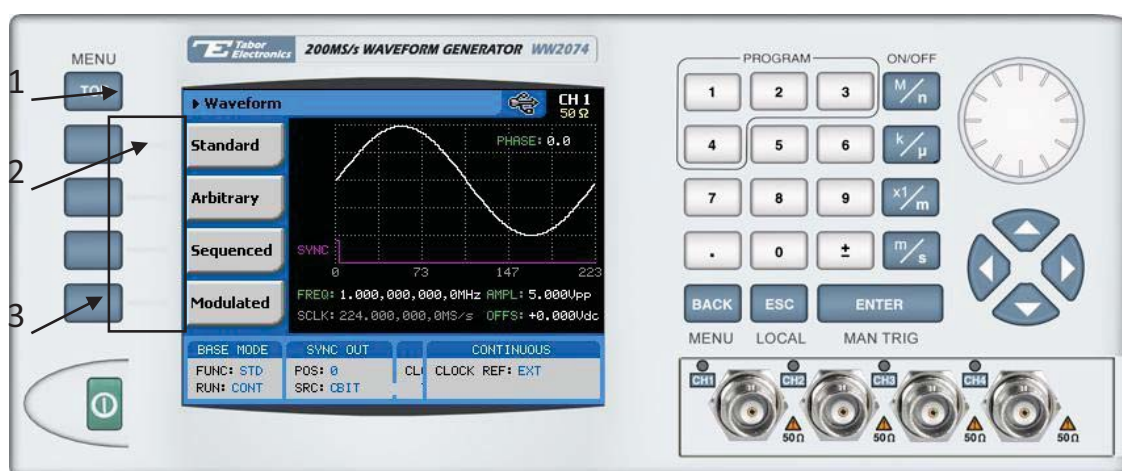

Figure 3-4, Selecting an Output Waveform Type
Refer to Figure 3-4 and use the following procedure to select an output waveform type.
Note that there are sub-menus associated with each output type menu. Accessing and using these sub-menus is described later in this chapter. The numbers on Figure 3-4 correspond to the procedure steps in the following description.
2. Press Waveforms, the display as shown in Figure 3-4 will open.